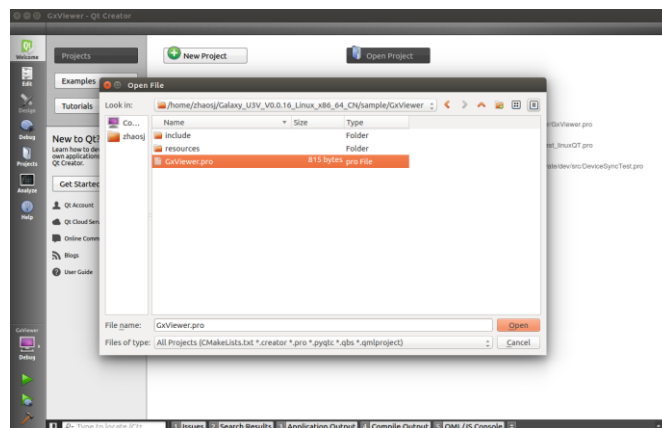

Figure 2-7
Step 1: After running the program, the display interface is as shown in Figure 2-7. Select **Open Project** and select the project file of the project to be opened in the pop-up dialog box.